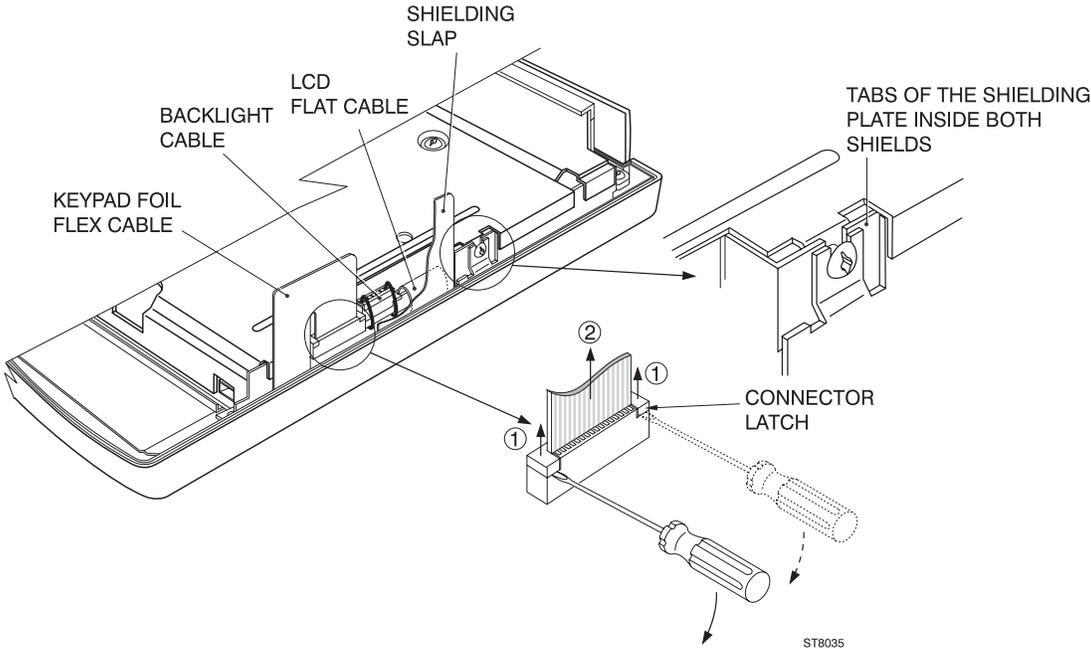

Figure 5-2. Flex Cable Connectors
- 2. Disconnect the LCD flex cable, and the keypad foil flat cable, see Figure 5-2. Unlock the cables by lifting the connector latch. The latch remains attached to the connector body. The keypad foil is provided with a shielding flap that covers the LCD flat cable. The end of the flap is put under the main PCA unit shielding plate, and can be easily pulled out.
2. Do not forget to install the power connector insulator (item 3) and the LED holder (item 6).
3. Notice the correct position of the shielding box, main PCA (notice the shielding plates on the PCA), and shielding plate, as shown in Figure 5-2. The tabs of the shielding plate must be inside both shields.